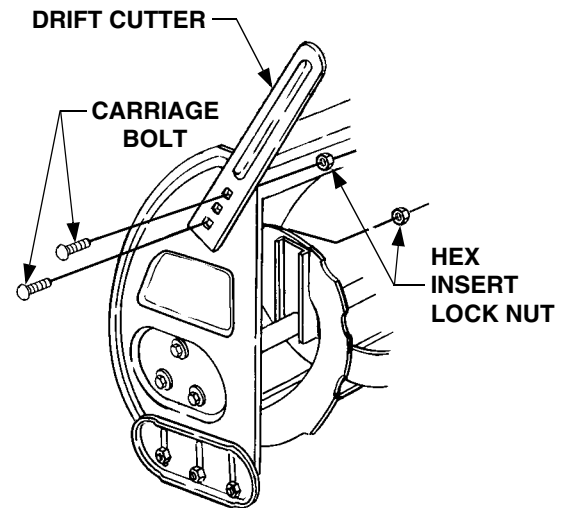

Figure 12
Drift cutters on both sides of the auger housing can be adjusted to the up position for a higher cut. Refer to Figure 12 and proceed as follows:
- Turn the drift cutters to the up position and secure with the carriage bolts and lock nuts as shown in Figure 12.